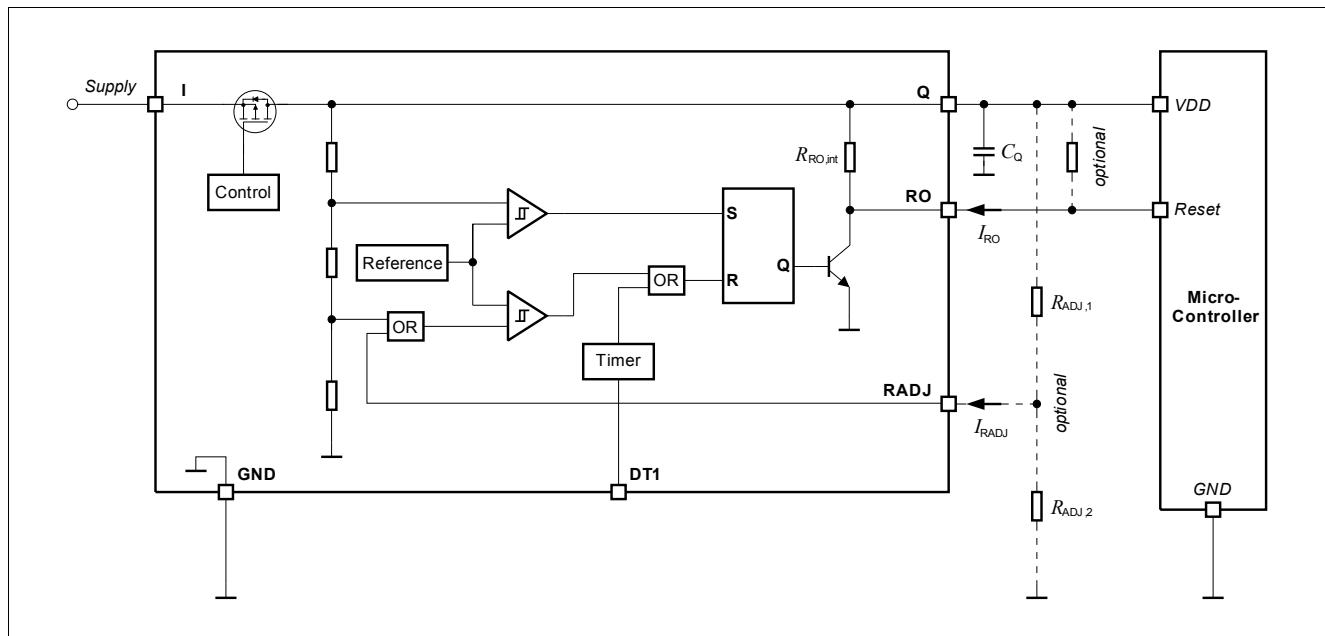

Figure 6 Block Diagram Reset Circuit
- $R_{ADJ,1}$ ,  $R_{ADJ,2}$ : Resistors of the external voltage divider, see Figure 6.